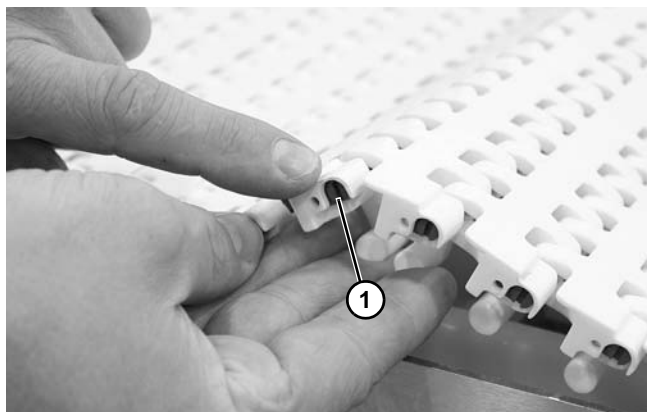

Figure 35
1. Lift up the belt near the tail end of the conveyor, or near a straight section. Locate the slotted end of the rod head (**Figure 35, item 1**).